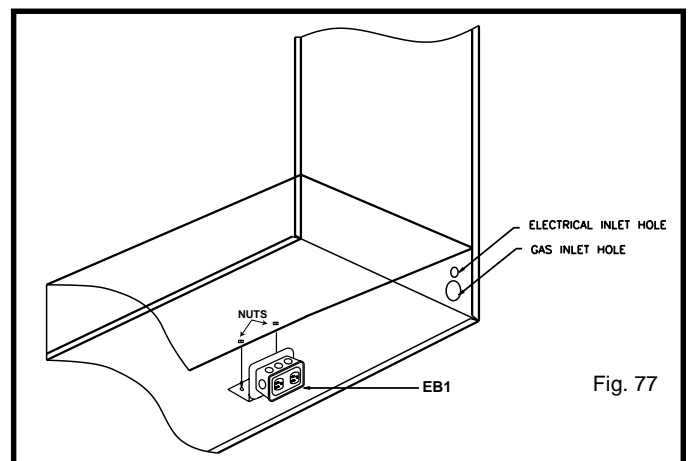

Fig. 77
- Remove 3/4" knock out. Slide the electrical box back plate into the lance clips on bracket on bottom of fireplace. Fasten into place with nuts provided. Fig. 77.